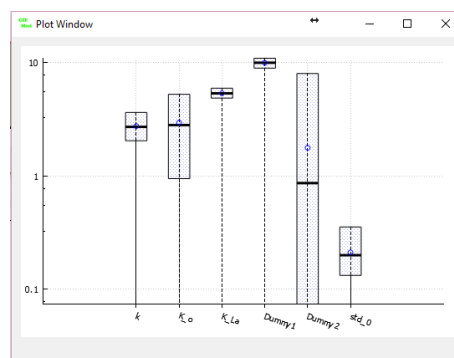

Figure 7: Parameter posterior 95 percentiles
- Right-click Right click on **Inverse Modeling**→**Parameters** and then select **Plot Percentiles** to see the 95 percentile range of the parameters (Figure 7).